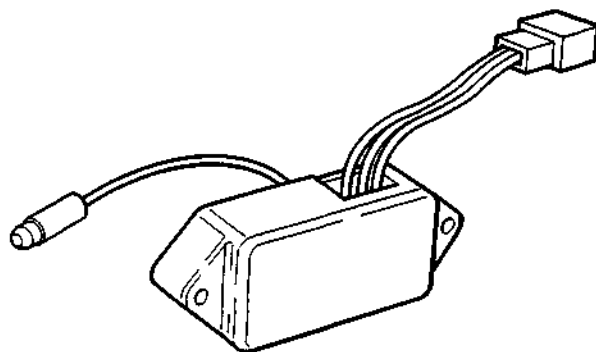

Figure 6.
- the evaporator sensor (Fig. 6)